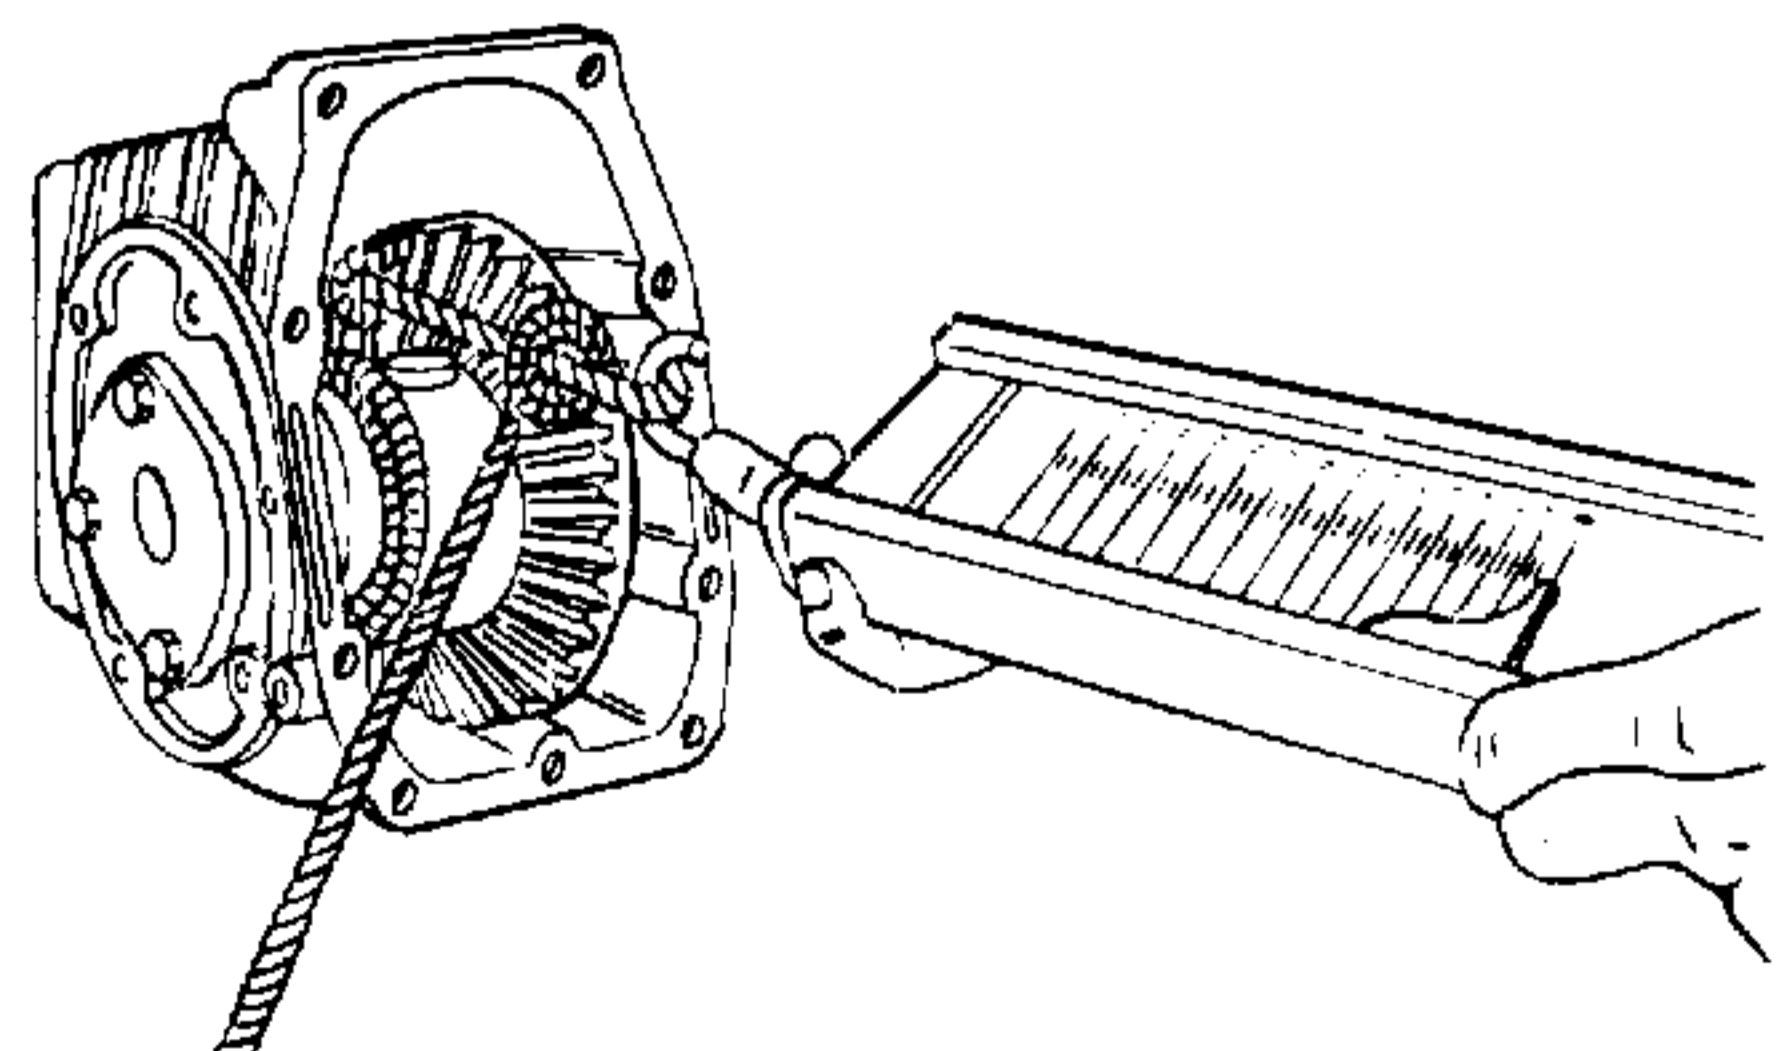

Figure 5-78B. Tapered Bearing Preload.
1. Place differential in rear transaxle housing (1).
- a. Tapered bearing preload – 4 to 14 lbs. on pull scale. Refer to Figure 5-78B.